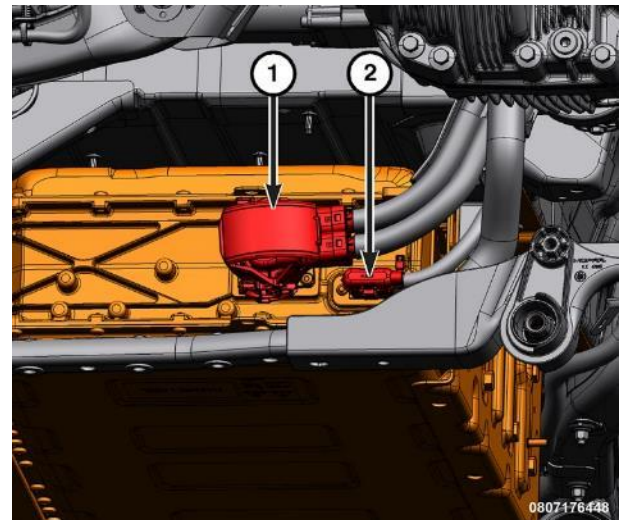

Figure 49 – HV Battery - Primary
- 34. Disconnect and install protective covers on the HV cable connector and the LV wire harness connector at the rear of the battery (Figure 49).
57. Connect the HV cable connector and the LV wire harness connector at the rear of the primary battery (Figure 49).